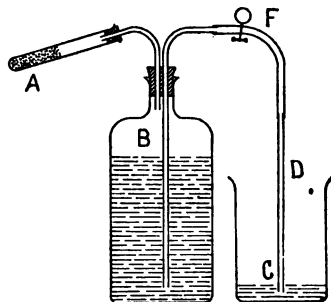

FIG. 97.
a. Set up the apparatus shown in Fig. 97. *A* is a hard-glass test tube that can be slipped tightly over a rubber stopper. *B* is a liter bottle fitted with a two-hole rubber stopper. The longer tube reaches *almost* to the bottom of *B*, and is connected by a rubber tube with *D*, which reaches to the bottom of *C*. The rubber tube